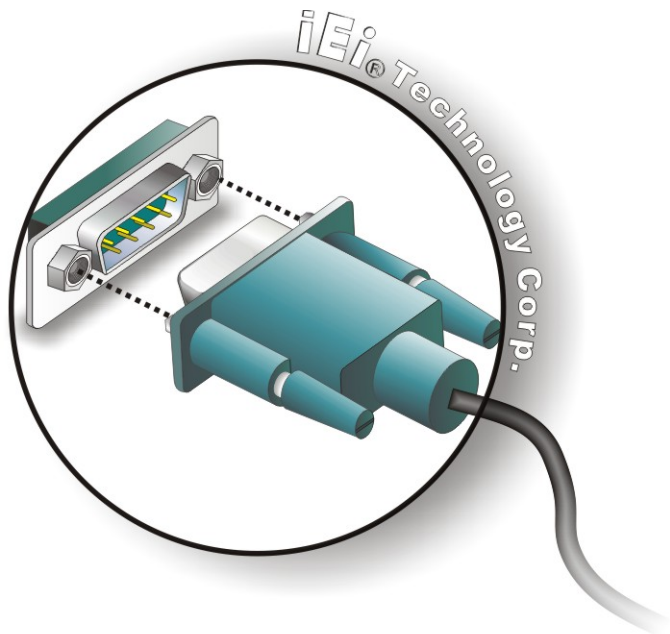

Figure 5-20: Serial Device Connector
Step 2: Insert the serial connector. Insert the DB-9 connector of a serial device into the DB-9 connector on the external peripheral interface. See **Figure 5-20**.